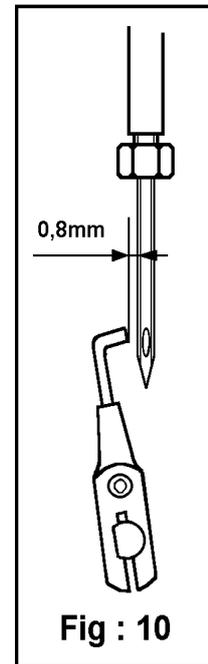

Fig : 10
9. At this moment, the distance between the point of the looper and the left side of the needle must be of 0,8 mm. Use gage, 11302, to check that distance, Fig: 10.